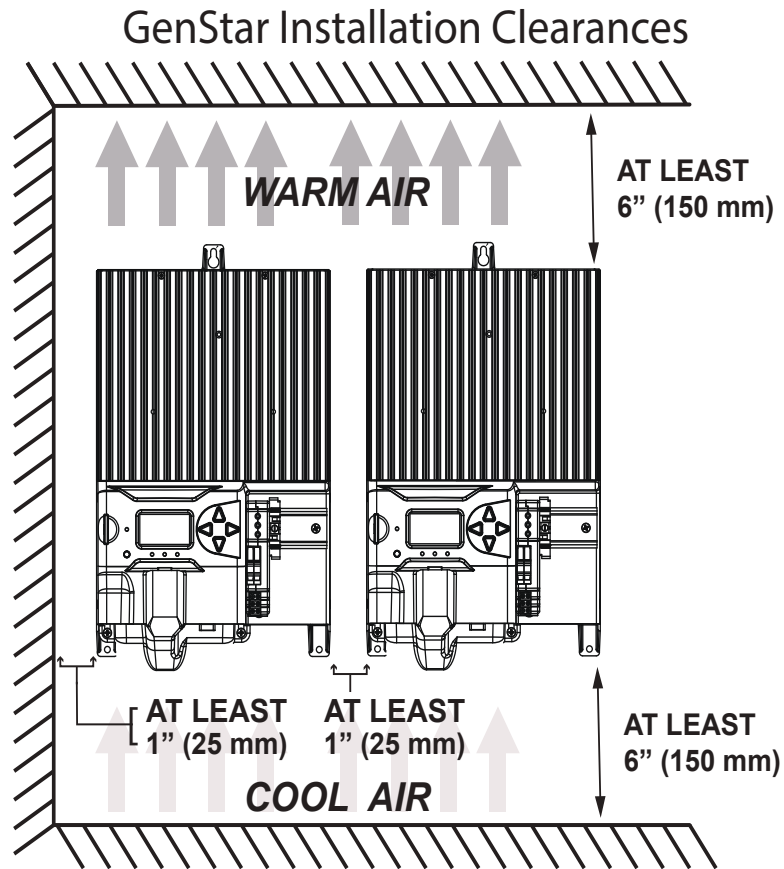

Figure 3-1. Required mounting clearance for proper air flow
Refer to Figures 3-1 and 3-2.
B. Verify that there is at least 6" (150mm) of space above and below the unit, and at least 3" (75 mm) around the heatsink - see Figure 3-1.
B. Mark and drill (1)-1/8" (3.175 mm) hole in the top end (slot) of the template keyhole, and two (2) lower holes for the frame holes.
B. Use two screws to secure the (2) unit lower frame holes flush with the wall.